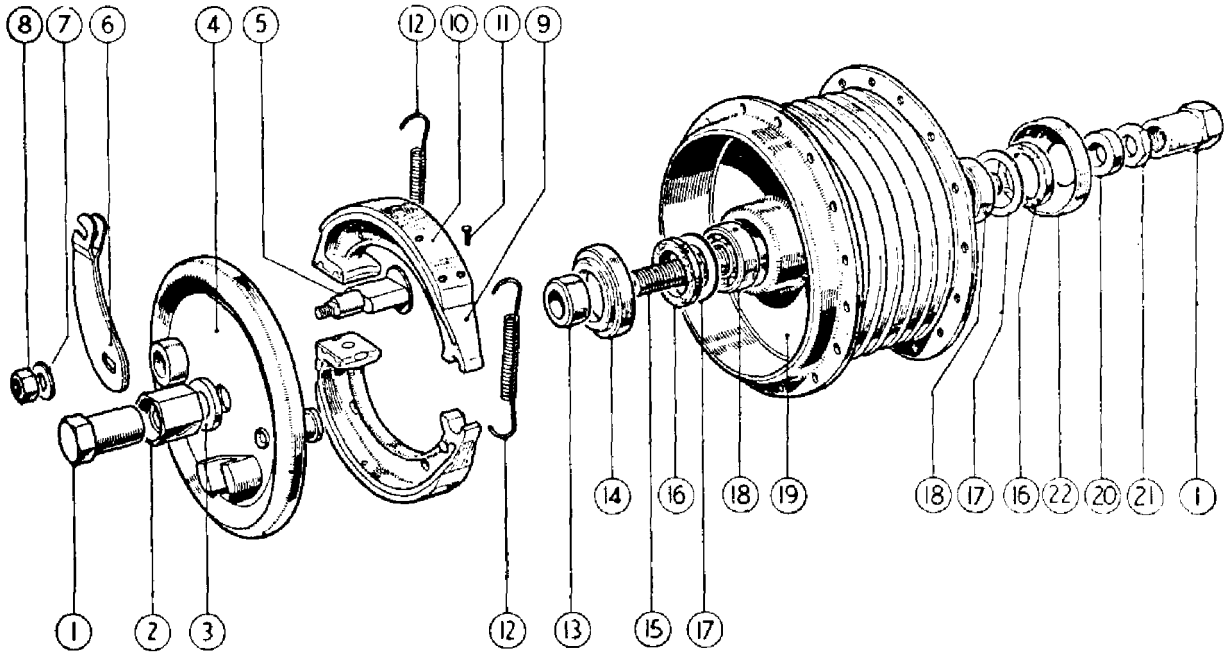

FIG. 88 Front Hub Assembly 1959 Type
Front wheel (1960-62 Models) (Fig. 88). It will be seen in Fig. 88 that the outside diameter of the spacing tube (13) is nearly the same as the inner member of the bearing (12). In consequence the projection into the spacing tube is small.